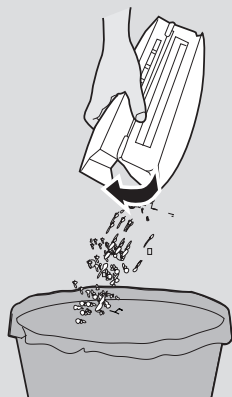

Fig. 14
2. Hold the dust container over a dust bin. [Fig. 14]